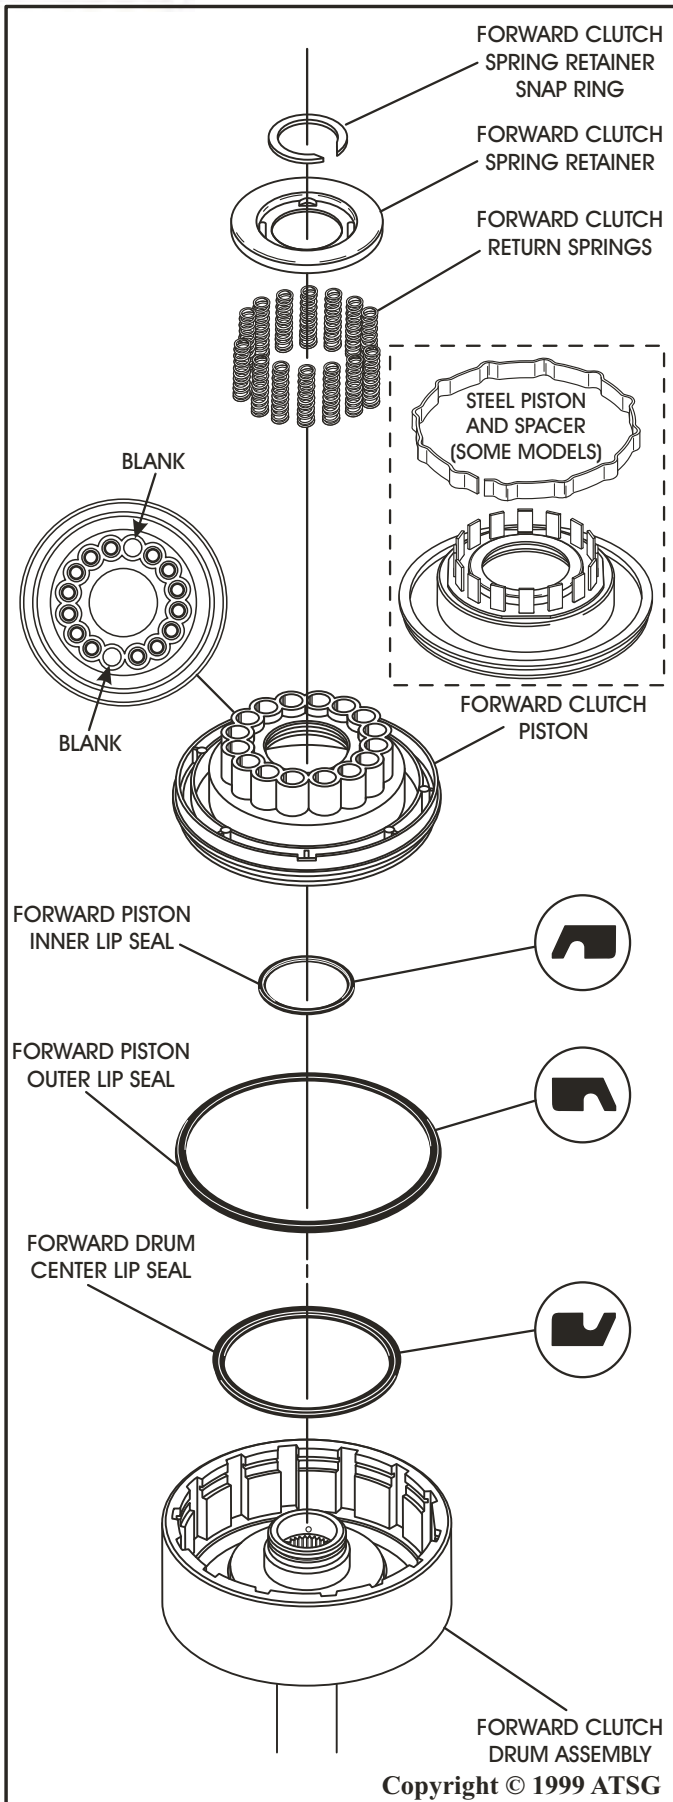

Figure 87
9. Install new forward center drum lip seal into the groove in forward drum, with the lip facing the direction shown in Figure 87, and lubricate with a small amount of TransJelÖ.
10. Install new forward clutch piston outer lip seal in groove of forward clutch piston, with the lip facing in the direction shown in Figure 87.
11. Install new forward clutch piston inner lip seal in groove of forward clutch piston, with the lip facing in the direction shown in Figure 87.
Note: Some models use stamped steel forward clutch piston and spacer (See Figure 87).
16. Install 14 forward clutch piston return springs into the cavities in the piston in the positions shown in Figure 87, leaving two blank pockets 180 degrees from one another.